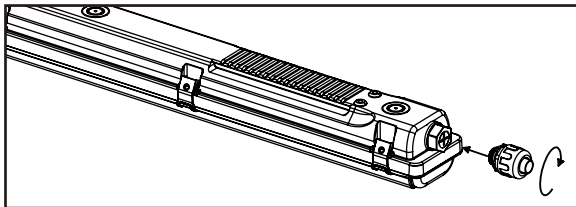

Figure 2.
2. Thread the 1/2" water-tight conduit fitting (by others) into universal hub on end of luminaire (Figure 2)